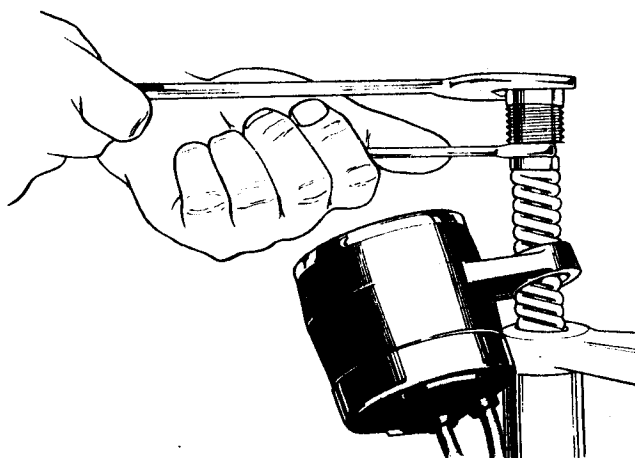

Fig. G6 Releasing damper rod from fork top bolts.
- 2 Unscrew and lift the fork tube large chrome top bolts and using two spanners as shown in *Fig. G6* release the damper rod from each top bolt.
- 10 Again lift the large chrome top bolts, firstly to add oil and secondly to connect the damper rods. Measure the required quantity of oil for each fork leg (150 cc of SAE 20). Pouring the oil into the leg will prove a long operation. To speed up the filling operation, pour in as much of the measured quantity as possible, place the hand firmly over the top of the main tube and extend the fork leg. Do this several times to speed up oil drainage into the slider. When the measured quantity has been added, and with the instrument case held in position, connect the damper rod to the chrome bolt as in *Fig. G6*. Using a socket wrench on the chrome bolts, tighten them down on to the fork tubes to 40 lbs/ft (5.83 kg/m).